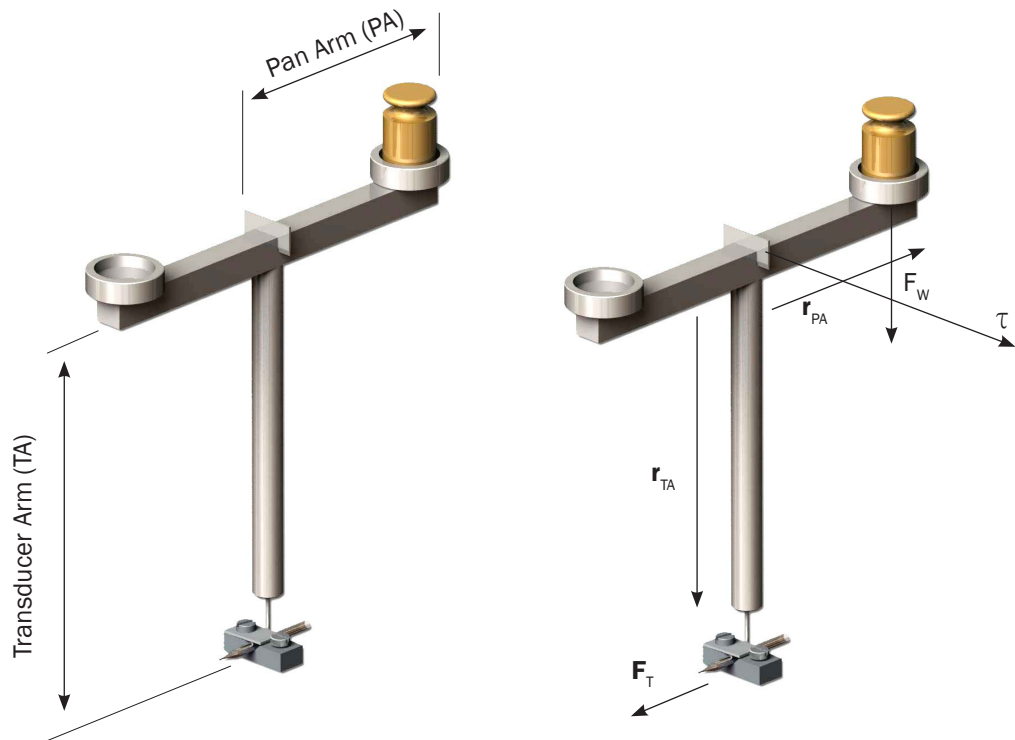

Figure 5.8 Theoretical principle of the weight calibration
where r is the distance from the point of rotation to the point on the object where the force \mathbf{F} is acting with the angle of θ . Applying the physics to the weight calibration setup is illustrated in Fig. 5.8.
7. Carefully place the 2 g weight on the pan as illustrated in Fig 5.8, p. 64. The force applied on the force transducer should mimic the stretch created by the contraction of a mounted ring preparation. Wait until the relative force reading is stable. Press **F3** to finish the calibration.